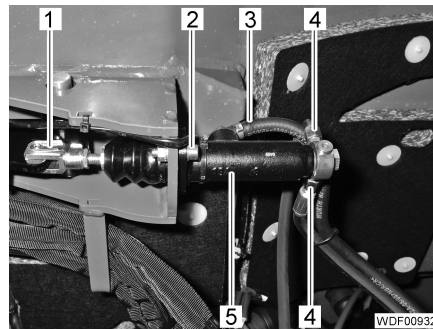

Fig. 137 Main brake cylinder
- Unlock the pin (Fig. 137,1) and pull it out of the fork end.
- Unscrew and close off the 2 hydraulic lines (Fig. 137,4).
- Close off the hydraulic line (Fig. 137,3) with a clip, open the clamp and pull off the hydraulic line.
- Unscrew the 2 screws (Fig. 137,2).
- Remove the main brake cylinder (Fig. 137,5).
- Insert the main brake cylinder (Fig. 137,5).
- Screw in 2 screws (Fig. 137,2) with washers and tighten.
- Attach the hydraulic line (Fig. 137,3) to the connection on the main brake cylinder, secure it with a clamp and open the clip.